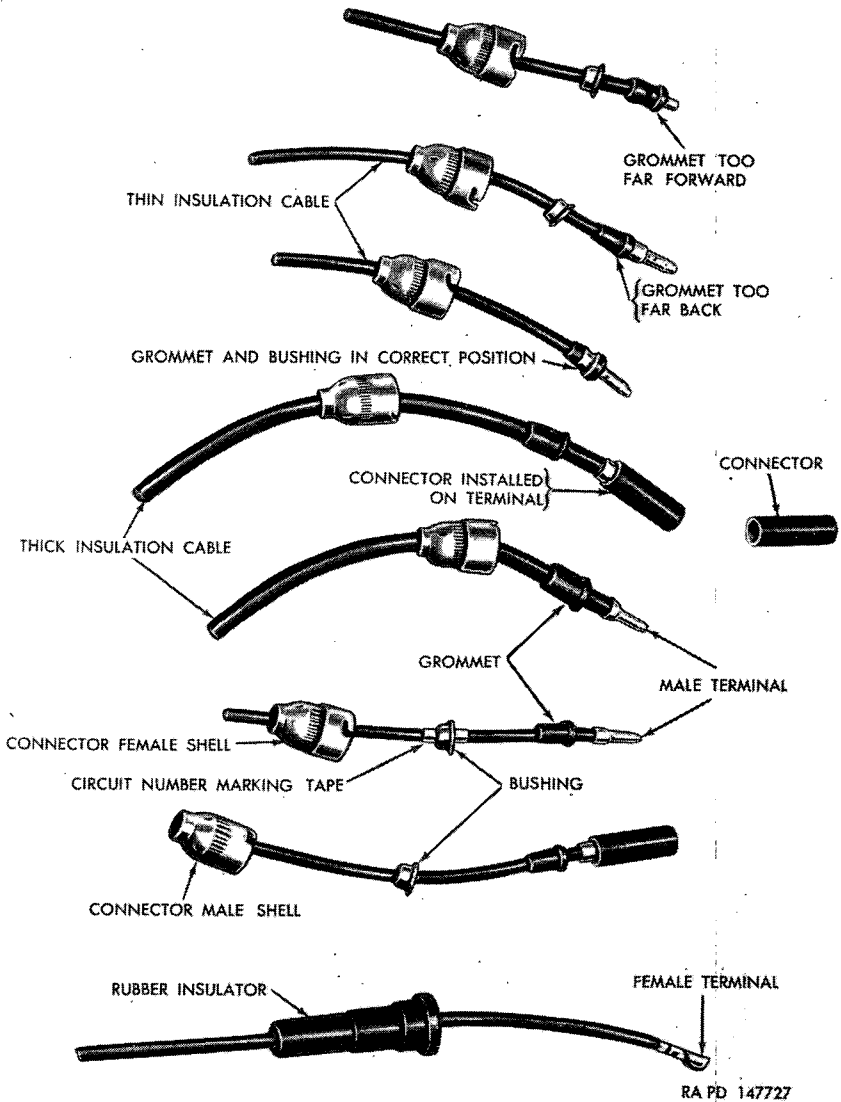

Figure 189. Bell-type connectors.
- (3) *Bell-type connector* (fig. 189). Separate the two bells by a twist and pull. Pull apart the insulated, snap-type connector.
- (3) *Bell-type connector* (fig. 189). Snap connector units together. Make sure rubber grommets and bushings are in proper position. For correct position see figure 189. Clip together the two bells.